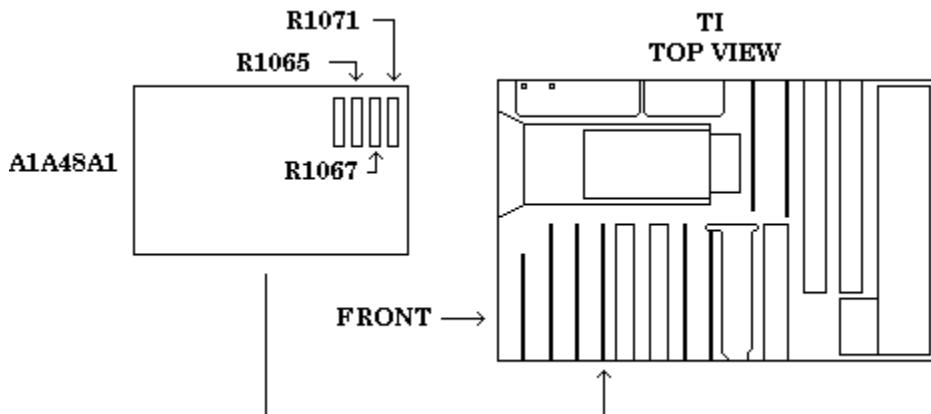
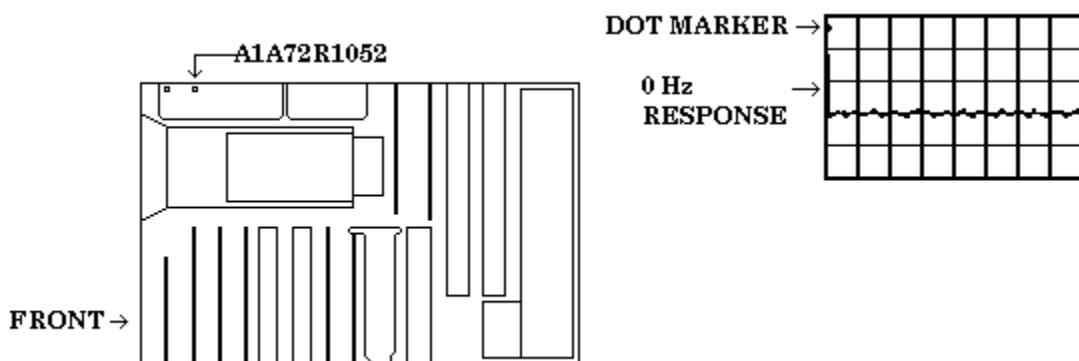

Figure 3. Span/div adjustment.
Figure 4. 0 Hz adjustment.
- (10) Set pulse generator for a 10 ns output at an amplitude of 2.00 V.
- (11) Use TI **CENTER/MARKER FREQUENCY** knob to align second marker from left to TI second vertical graticule line.
- (12) Adjust A1A48A1R1065 (fig. 3) for one marker per division over center eight divisions of CRT (R).
- (13) Reduce pulse generator output to minimum and disconnect from TI **RF INPUT 50Ω**.
(14) Connect oscilloscope calibrator **SOURCE/MEASURE CHAN 1** to TI **RF INPUT 50Ω**.
(15) Press TI keys as listed in (a) through (d) below:
(16) Set oscilloscope calibrator for a 200 ns **MARKER** output.
(17) Use TI **CENTER/MARKER FREQUENCY** knob to align second marker from left to TI second vertical graticule line.
(18) Adjust A1A48A1R1071 (fig. 3) for one marker per division over center eight divisions of CRT (R).
(19) Press TI keys as listed in (a) through (d) below:
(20) Use TI **CENTER/MARKER FREQUENCY** knob to align second marker from left to TI second vertical graticule line.
(21) Adjust A1A48A1R1067 (fig. 3) for one marker per division over center eight divisions of CRT (R).
(22) Set oscilloscope calibrator to standby.
(23) Press TI **BLUE SHIFT** then **RESET** keys.
(24) Disconnect oscilloscope calibrator **SOURCE/MEASURE CHAN 1** from TI **RF INPUT 50Ω**.
(25) Adjust A1A72R1052 (fig. 4) dot marker over 0 Hz response as shown in example waveform in fig. 4 (R).